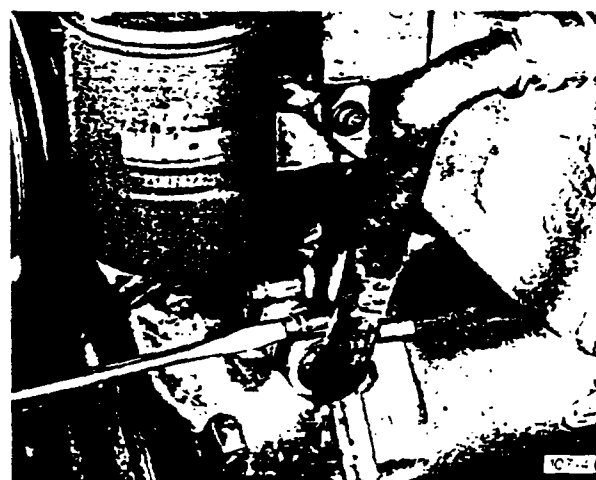

Figure 2-393. Clamp Locations
17. Series Charge Air Cooling Only - Tighten clamps at both ends of the water tubes. See Figure 2-393.